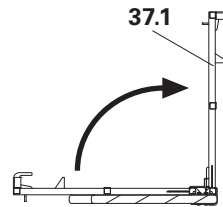

Fig. B2.18
1. Fold out guardrail (37.1) and swivel both end handrails inwardly by 45°. They lock into place on the platform decking. (Fig. B2.18)